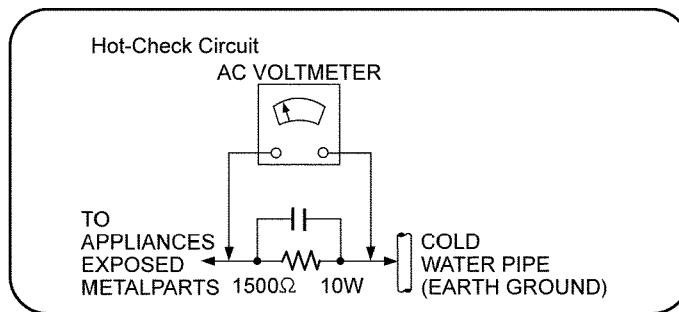

Figure. 1
2. Connect a $1.5K\Omega$, 10 watts resistor, in parallel with a $0.15\mu F$ capacitors, between each exposed metallic part on the set and a good earth ground such as a water pipe, as shown in Figure 1.